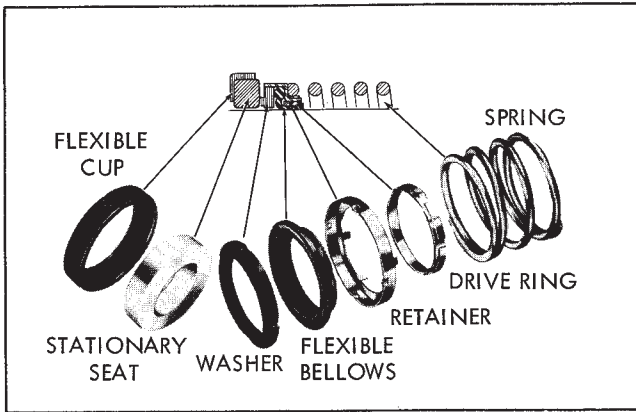

Figure 1. Mechanical Seal
The mechanical seal (see Figure 1) is a precision product and must be treated as such. During removal, great care must be taken to avoid dropping any part of the seal. Take particular care not to scratch the lapped faces on the washer or the sealing seat. Do not put a seal back into service until the sealing faces of the washer and seat have been lapped or replaced.
1. The mechanical seal (27) (see Figure 1) cannot be installed as an assembly. It is necessary to have the seal seat properly in place before the balance of parts can be added. Thoroughly inspect the seal cavity in the bracket for burrs or nicks which could damage the seat of the seal. Apply a film of soap paste or flax soap (do not use oil or grease) to the seal seat and install, taking care to seat it evenly and squarely.